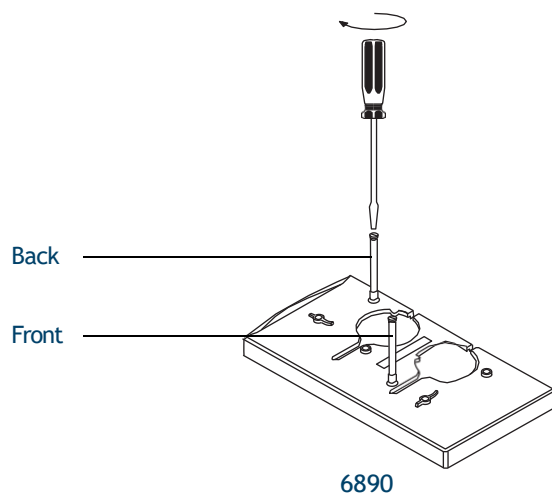

Figure 17. Installing the mounting post(s) (6890 GCs)
- 6890 Series GC. Install into the inlet cover in the front or rear location, as desired. The post must be turned all the way down (Figure 17).